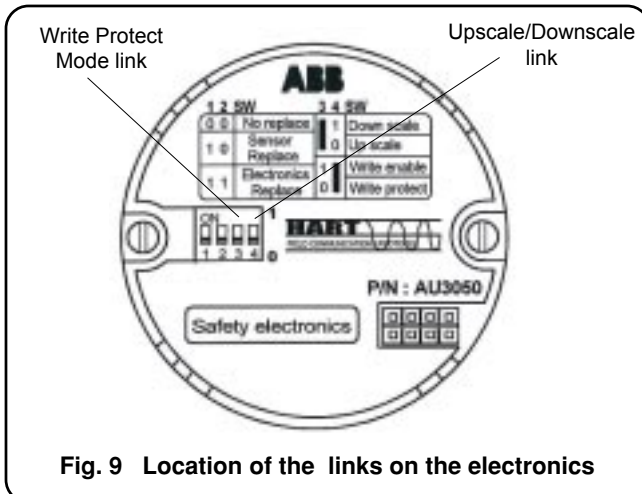

Fig. 9 Location of the links on the electronics
disabled. The Safety 2600T pressure transmitter is protected against undesirable configuration changes by a dedicated hardware link placed on the secondary electronics board which is identified as Write Protect Mode Link (see fig. 9).
- iii) the Write Protect Mode link, located on the electronics module is in position ON (write allowed). Access to the link is gained by unscrewing the secondary unit housing cover at the opposite end to the terminal cover (See Fig. 9).
- iv) the Upscale/Downscale link is positioned to the required function: ON for Downscale OFF for Upscale (see Fig. 9).